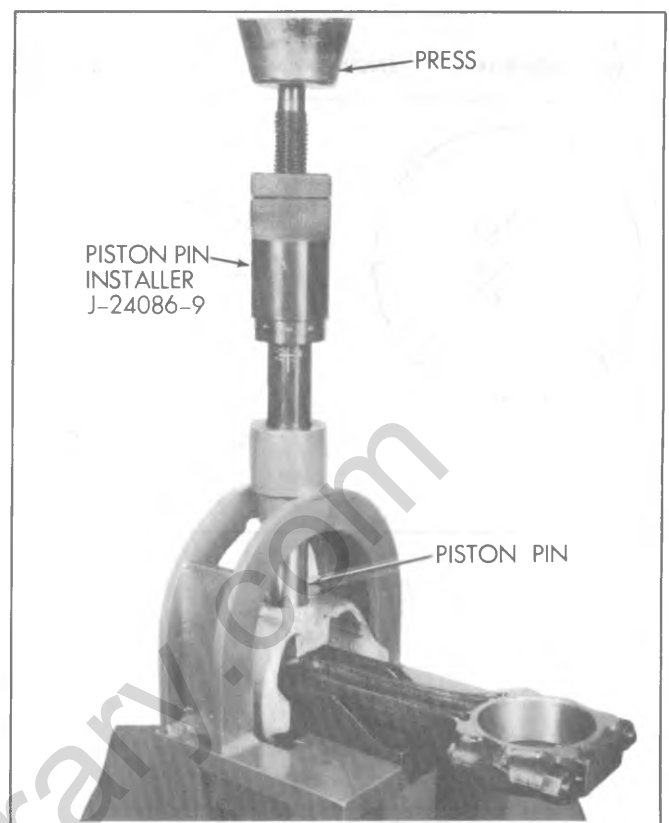

Fig. 6A1-42--Installing Piston Pin
3. Using piston pin installer, J-24086-9, press the piston pin into the piston and connecting rod (Fig. 6A1-42).